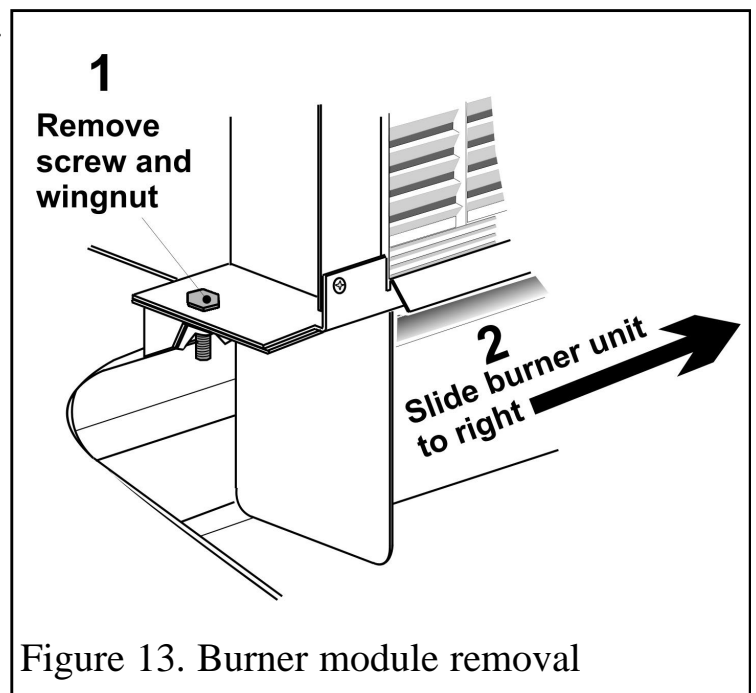

Figure 13. Burner module removal
11.5.4. Detach the left end of the burner module from the radiant box by removing one screw and a wingnut (See figure 13).
11.5.5. Carefully slide the burner module to the right to free it from the right side of the radiant box (See figure 13).